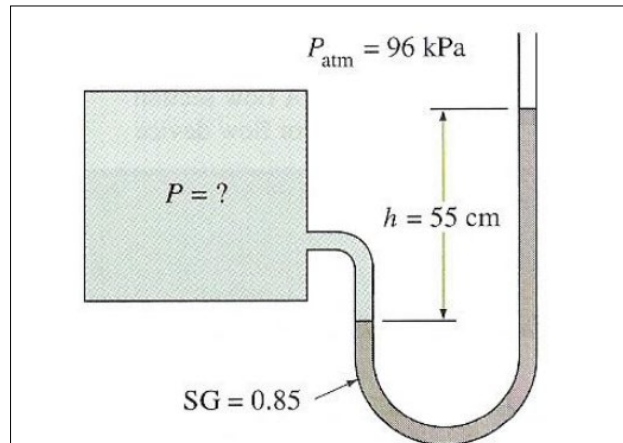

Figure A2 (c): Manometer / Rajah A2 (c): Manometer
- (c) A manometer is used to measure the pressure of a gas in a tank. The fluid used has a specific gravity of 0.85, and the manometer column height is 55 cm, (as shown in Figure A2 (c)). If the local atmospheric pressure is 96 kPa and density of water is 1000 kg/m^3 , calculate the absolute pressure within the tank.